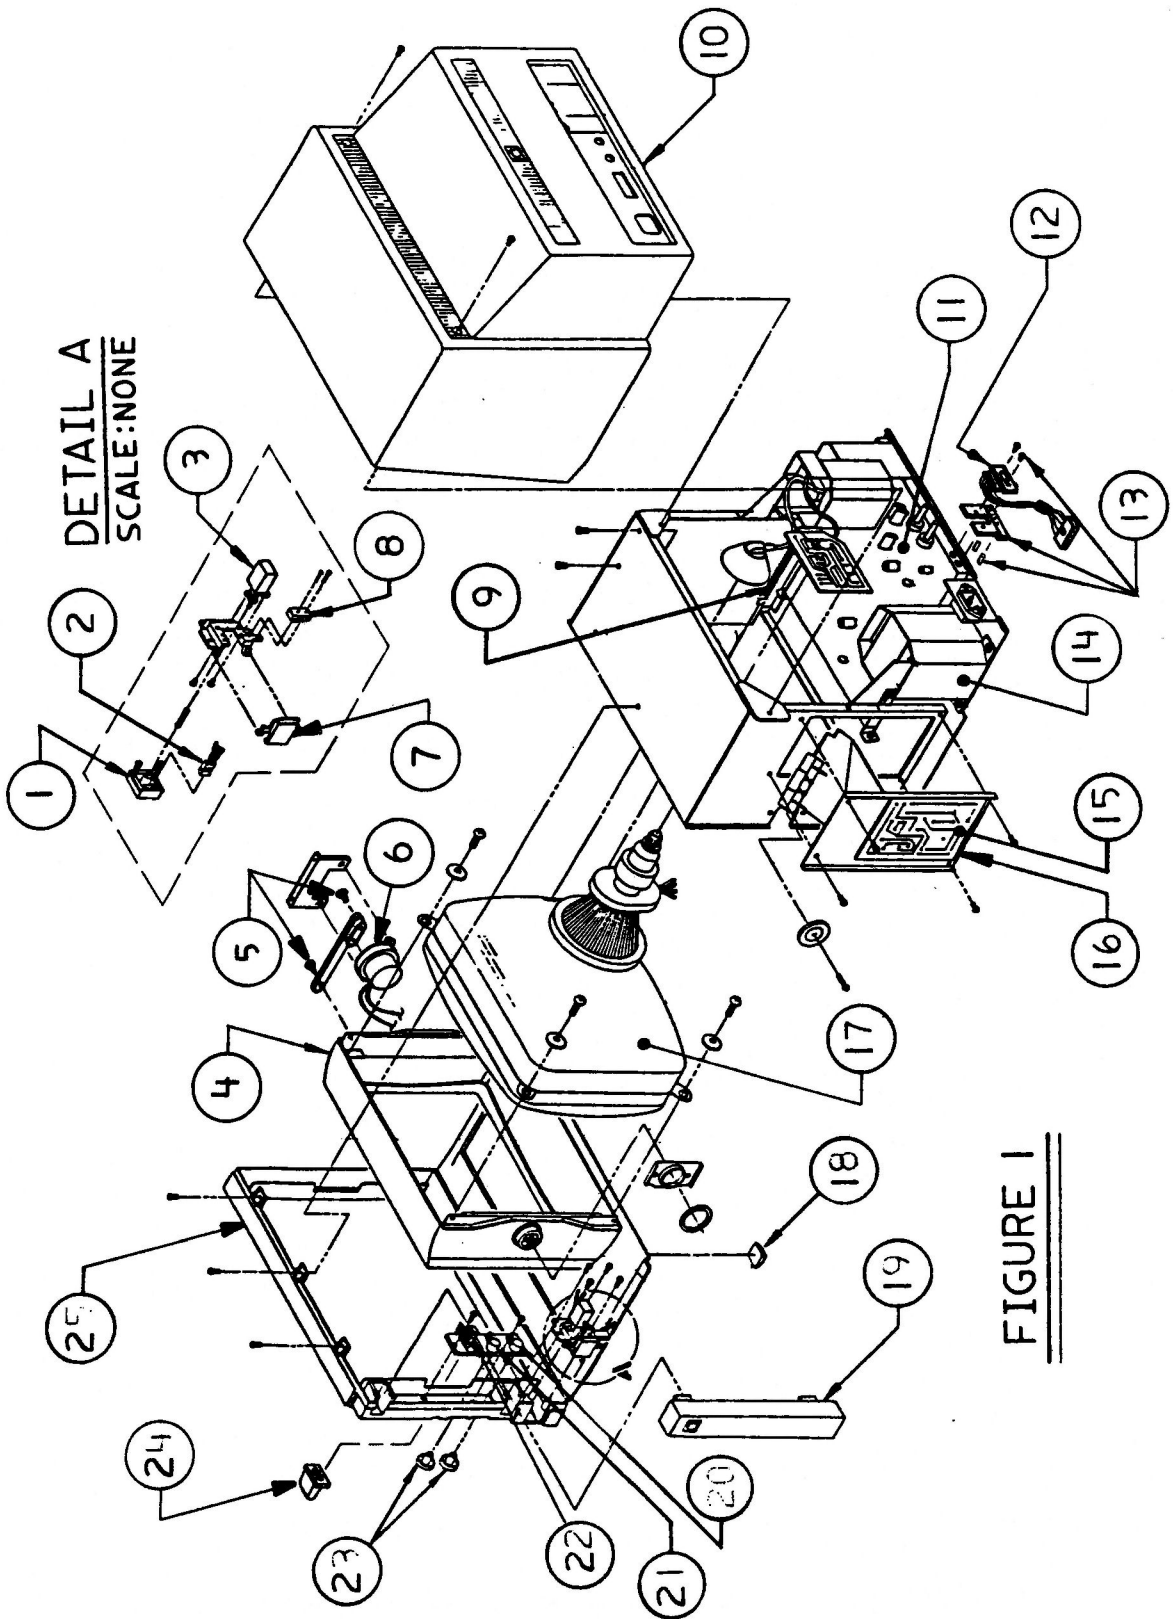

FIGURE 1
**APPLECOLOR MONITOR 100 - (Figure 1)**